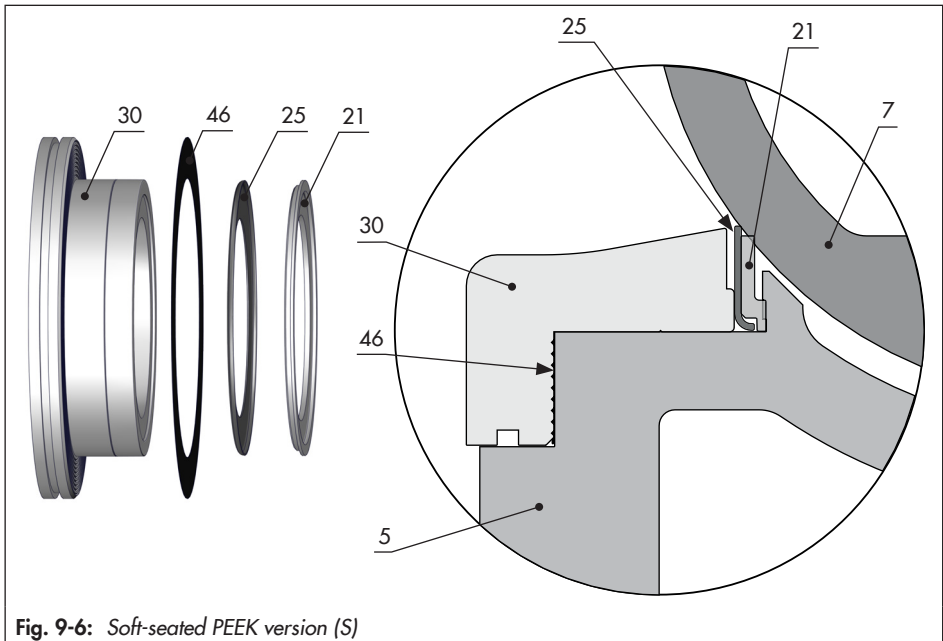

Fig. 9-6: Soft-seated PEEK version (S)
See Fig. 9-6
1. Remove the support ring (25) and seat ring (21).
4. Insert a new seat (21) into the body. Make sure it is properly aligned (see Fig. 9-6).
5. Insert the support ring (25). Make sure it is properly aligned (see Fig. 9-6).
6. Mount the retainer seal (46) on the retainer (30).
7. Insert the retainer (30) with retainer seal (46) into the valve body (see "Tip" on page 9-7) and fasten using retaining screws (70) and washers (80). Observe tightening torques.